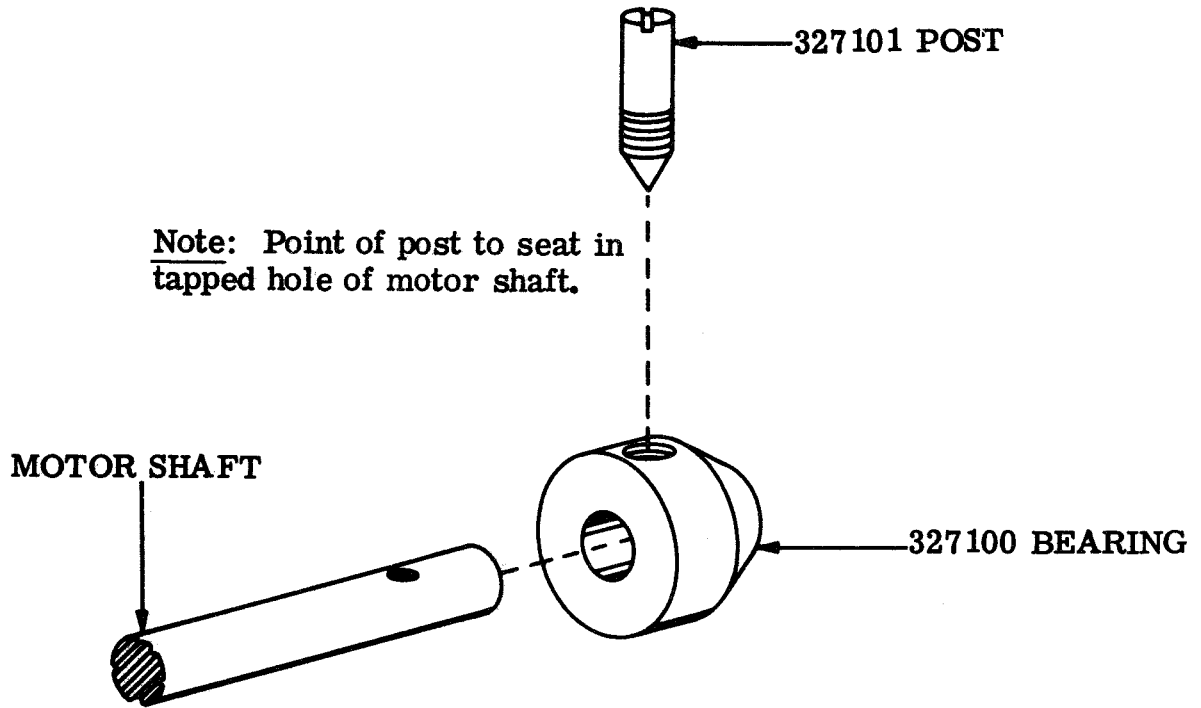

FIGURE 1
2. INSTALLATION (See Figures 1 and 2)
- 2.05 Install the 327100 bearing on the motor shaft with the 327101 post (Figure 1).